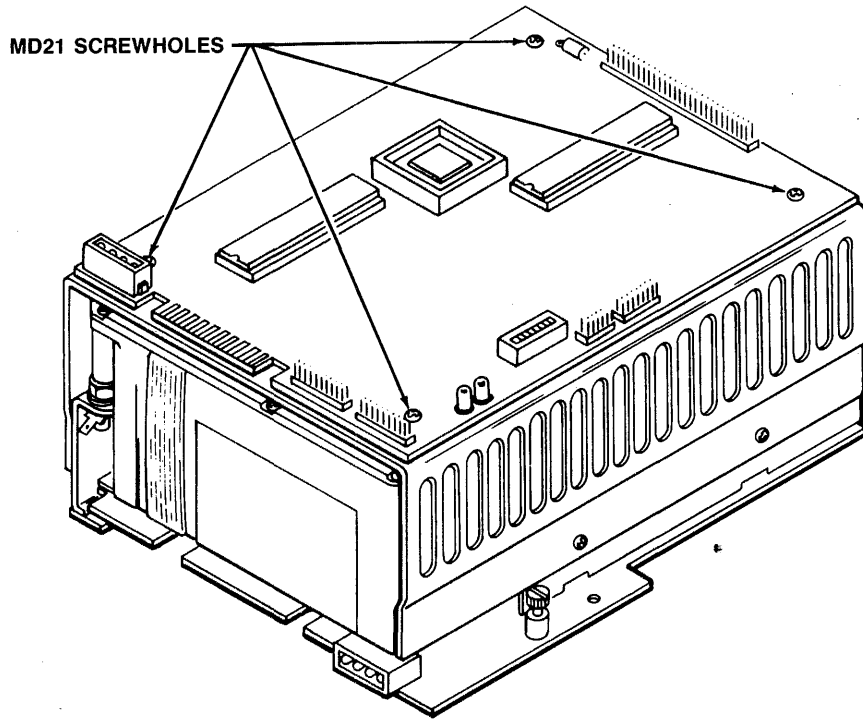

Figure 5-6. Installing the MD21 Controller on the Mounting Bracket
This subsection describes a sample procedure for installing the MD21 Controller in the disk drive chassis. To install the MD21, see Figures 5-6 and 5-7 and use the following procedure:
3. Place the MD21 Controller (component side up) on top of the mounting bracket. Align the four screw holes on the MD21 Controller with the four screw holes on the mounting bracket (see Figure 5-6). Secure the MD21 Controller in place with four 4-40 x 1/4-inch screws.